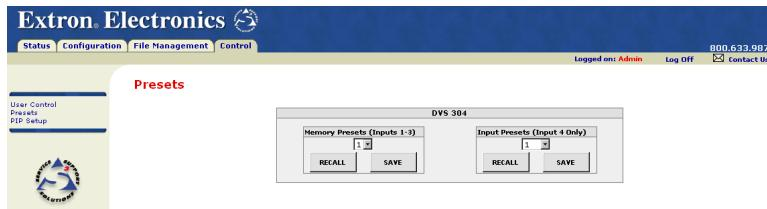

Figure 47. Presets Page
4. Click the **Presets** link on the left side. The Presets page appears (figure 47).
6. Click the **Presets** link on the left side. The Presets page appears (figure 47).